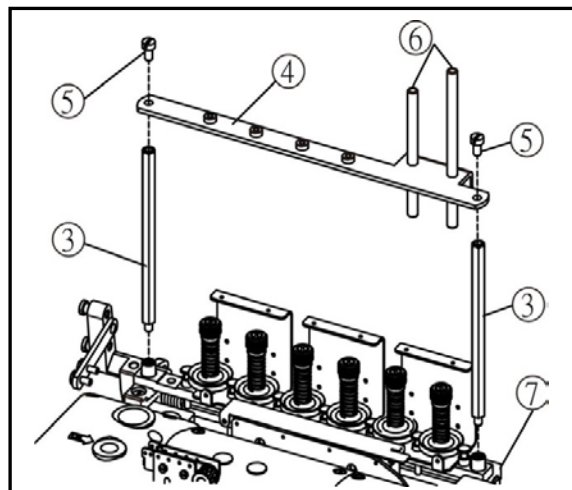

Fig. 13
Adjust the thread pipes ⑥ to make sure threads get through smoothly without being entangled. (Fig. 13)